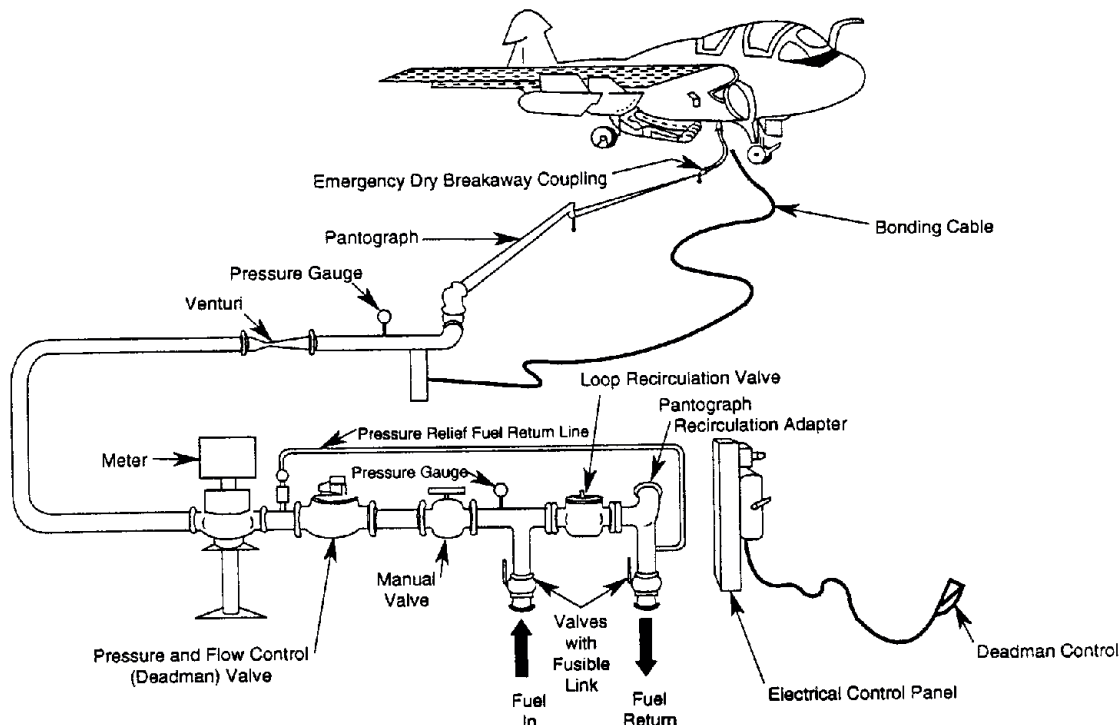
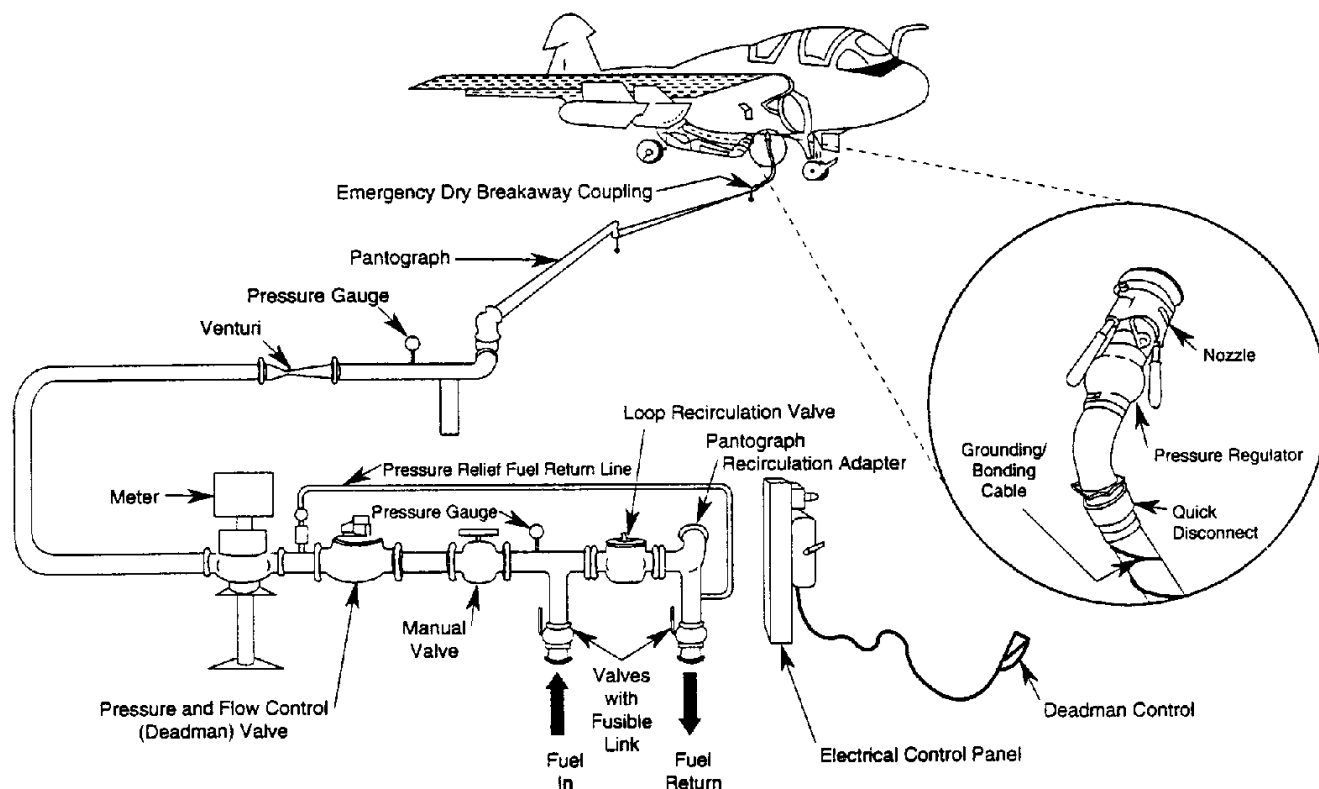

Figure 5-16.—Bonding of aircraft to direct refueling station.
Figure 5-17.—Bonding and grounding via nozzle connection.
6. Attach bonding cable (fig. 5-16) between refueling equipment and the aircraft. In direct fuel systems, bonding is usually accomplished through nozzle/hose/pantograph system (see figure 5-17). If impractical, bonding connection is made using grounding receptacle near the aircraft's refueling adapter. If this is not possible, the connection is made bare metal to the aircraft (plane captain).